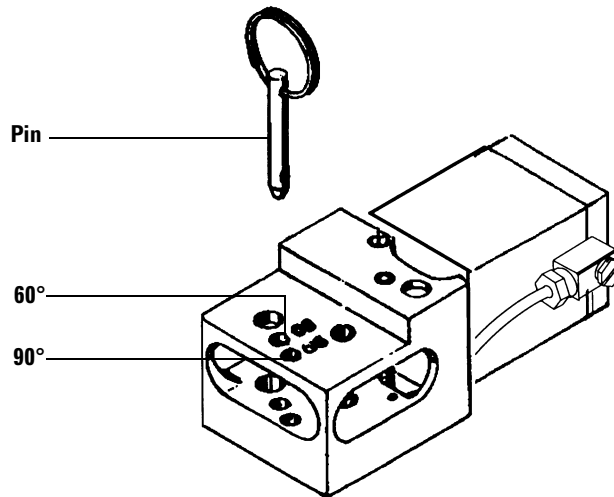

Figure 11 Setting the actuator's degree of rotation
- 2 For each actuator, set the appropriate degree of rotation for its valve by moving the pin to the required limiting hole (see Figure 11):